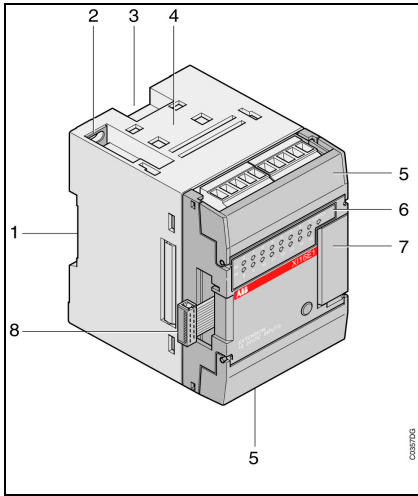
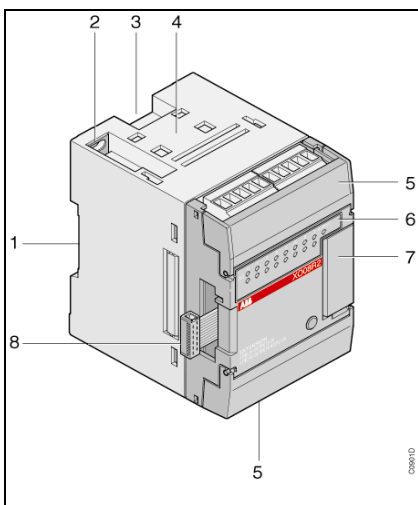

Figure 3-5 : XI 16 E1 binary extension
Figure 3-11 : XO 08 R2 binary extension
5.1. The front (see Figure 3-5 to Figure 3-11)